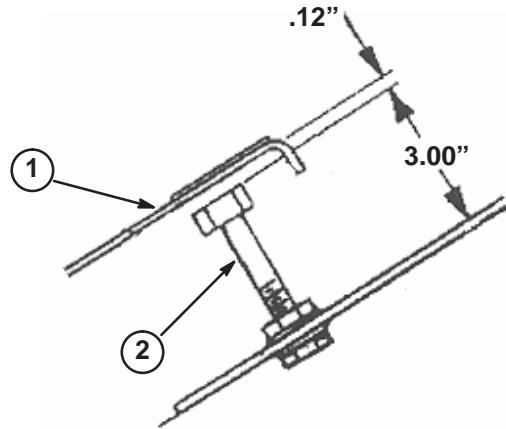

Figure 58
2. Loosen lock nuts and adjust traction pedal stop screw (Fig. 58) to a length of 3.00".